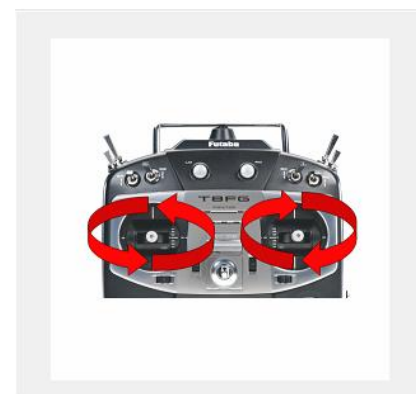

Figure 29
- b) Click “Yes”, within 5 seconds rotate the left and right transmitter sticks to their extremes in all directions, as shown in Figure 29. The flight controller automatically record the maximum and minimum values for each control axis and also the neutral values.